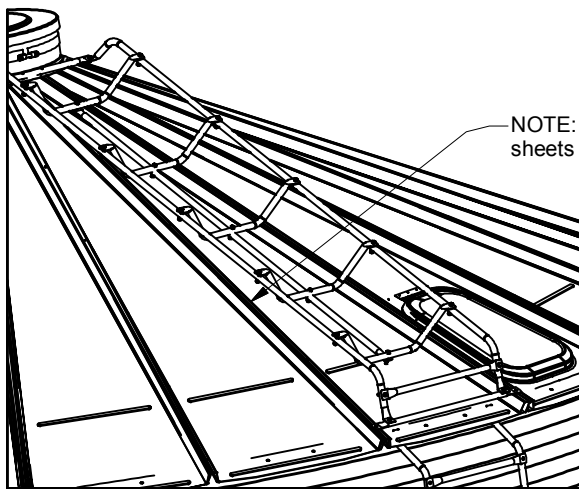

fig. 7
4. Once these four sheets are in place, add sheets to each section, making sure to use the same overlap pattern (shown in Fig. 7), until all sheets are installed. Bolt sheets together with 1" (25mm) bolts.